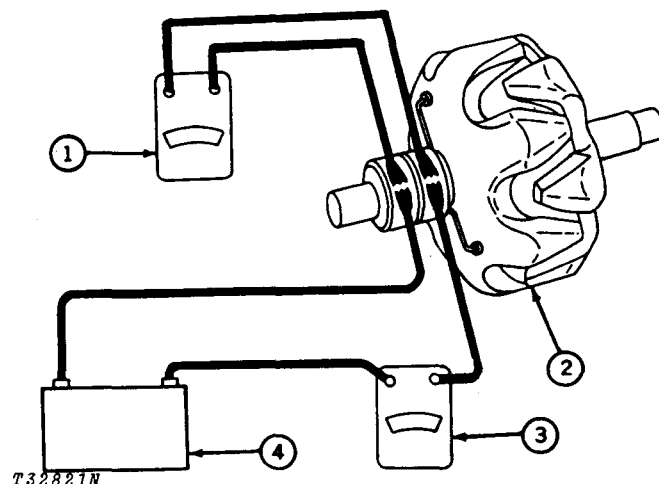

Fig. 11-Rotor Current Draw Test
Connect voltmeter (1, Fig. 11), ammeter (3), and battery (4) to rotor (2).